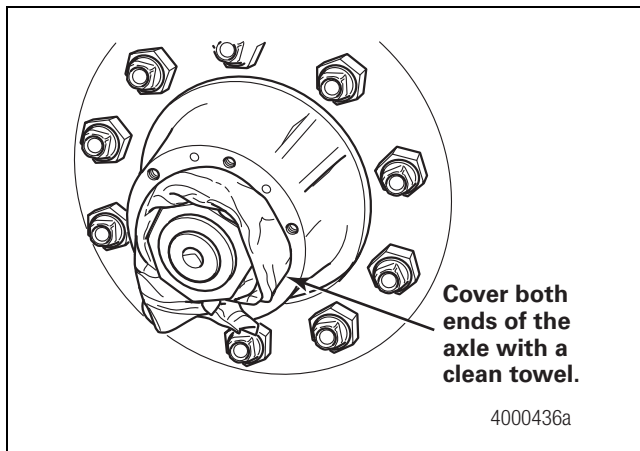

Figure 2.7
4. Cover the wheel ends at both ends of the axle with a clean towel. Figure 2.7.